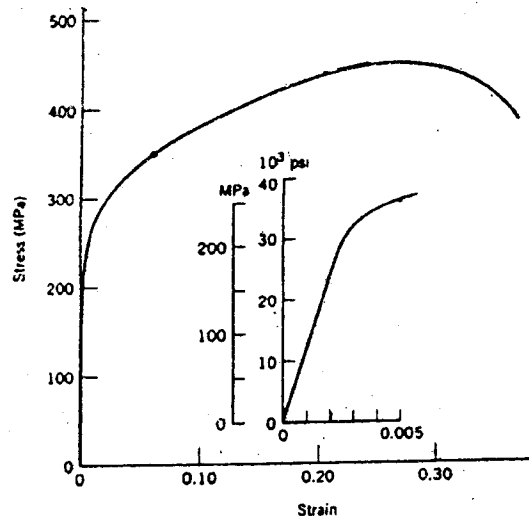

Fig. Q2(a)
- a. From the tensile stress-strain behaviour for the brass specimen shown in Fig. Q2(a), determine the following :